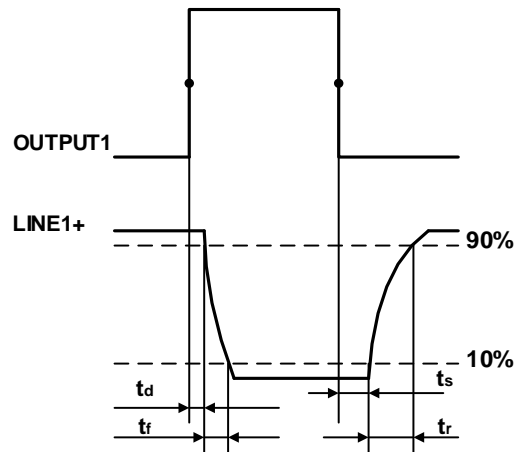

Figure 7-4 Parameter of opto-isolated output circuit
- Rising time delay = tr+td: <50μs (0°C~45°C) (parameter description is shown in Figure 7-4)
- Falling time delay = ts+tf: <50μs (0°C~45°C) (parameter description is shown in Figure 7-4)
- Rising time delay = tr+td: <math><20\mu\text{s}</math> (0°C~45°C) (parameter description as shown in Figure 7-4)
- Falling time delay = ts+tf: <math><20\mu\text{s}</math> (0°C~45°C) (parameter description as shown in Figure 7-4)